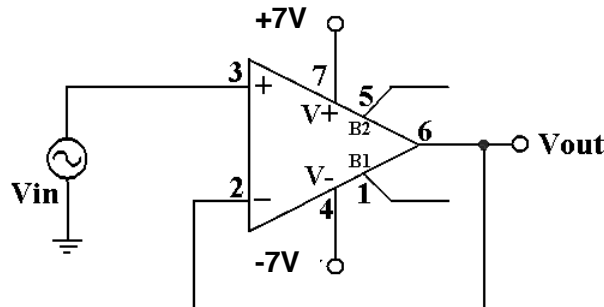

Fig. 6. Unity Gain Buffer Configuration.
8. Simulate the unity gain buffer configuration shown in Fig. 6 with a load of 2k in parallel with 100 pF at the output. Assume a sinusoidal input of 10 Vpp at 15kHz. Obtain the maximum  $dV_{\text{out}}/dt$  of the output signal and find the frequency at which this Opamp will enter the slew rate conditions.